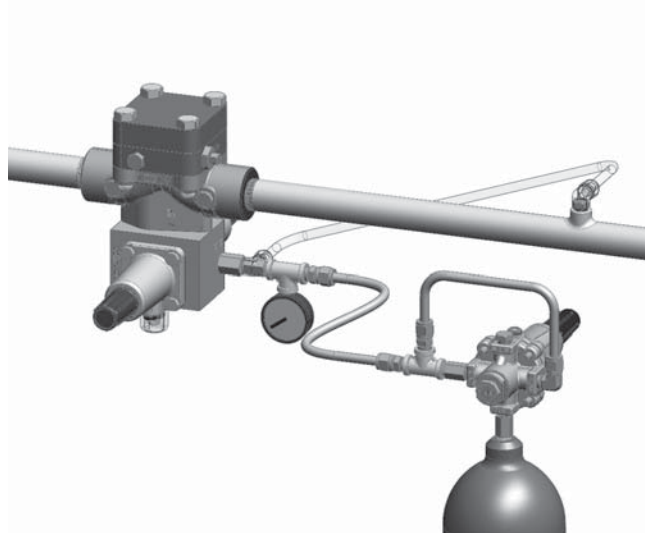

Figure 5
Overpressure Protection Only (See Figure 5)
2. Connect a pressurized bottle into the Slam Shut Sense Port and apply a constant pressure above the Underpressure set point (and below the Overpressure set point if applicable). (See Figure 5).